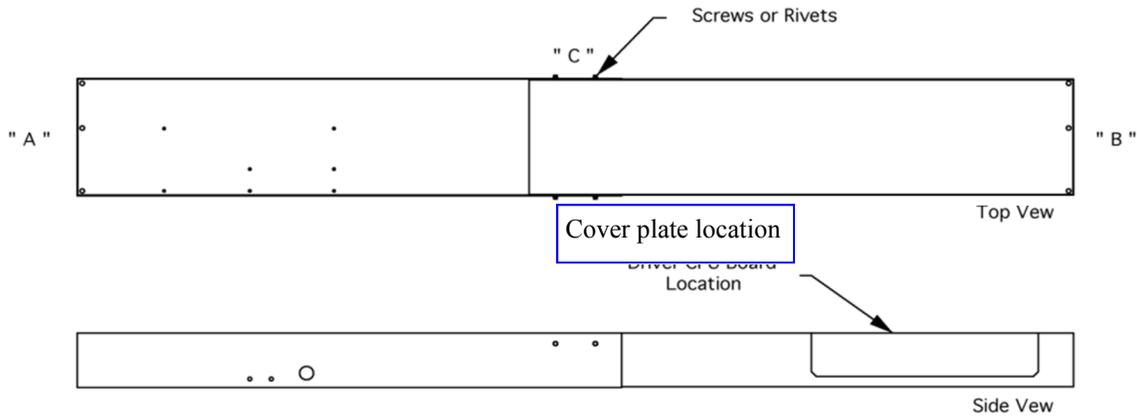

Figure 10
- B. Position the rail cover onto the piano, leaving 1/8" (3 mm) spacing at each end of slot, at "A" and "B" (see Fig. 10). Position side "C" of rail cover to barely cover the front edge of the slot and then attach the cover with the screws supplied.